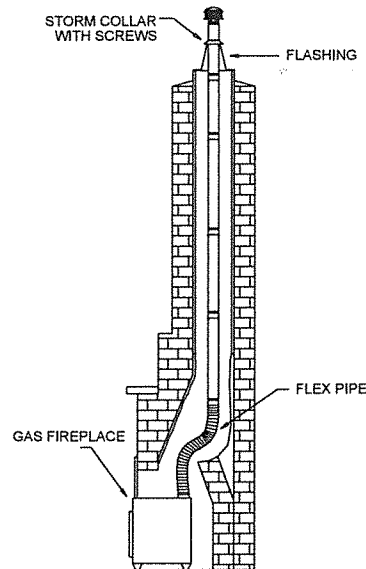

Figure 24
1. Description. A masonry chimney should be relined with B-Vent when venting a Category I gas appliance, such as a gas fireplace insert or freestanding gas stove, or to improve the venting and reduce condensation of existing gas appliances which are currently venting into the masonry chimney. These instructions encompass two general configurations: (1) A gas fireplace situated inside an existing masonry fireplace (**Figure 24**) or (2), a freestanding gas appliance venting into an existing masonry chimney. (**Figure 30**)